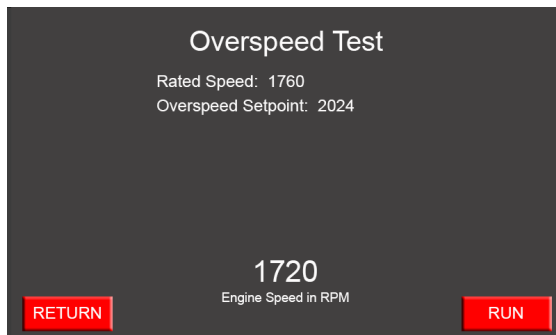

Figure 4-11 Overspeed test
3. As shown in Figure 4-11, press the **RUN** soft button.